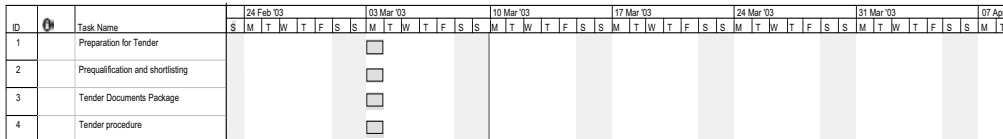

Figure 103 The four products, now on a Gantt chart
2. Input your products via the Gantt entry screen as in Figure 103.